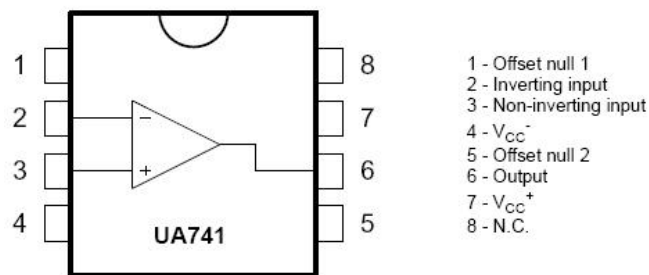

Figure 5.10. 741-type operational amplifier pin connections.
One common op-amp device is the 741 op-amp. The 741 is an eight-lead DIP; a top view of the package, with the leads labeled, is shown in Fig. 5.10. Key features of the package are as follows:
- Orientation of the pins is determined by the location of a semicircular notch on the package, as shown in Fig. 5.10. (Recall that Fig. 5.10 is a top view of the device.) Alternately, some packages place a circular indentation near pin 1 in order to provide the orientation of the pins.
- Inverting and non-inverting inputs are pins 2 and 3, respectively in Fig. 5.10
- The positive and negative power supplies are labeled as V_{CC+} and V_{CC-} in Fig. 5.10. They are pins 7 and 4, respectively. V_{CC+} should be less than +15 volts and V_{CC-} should be more than -15 volts. A larger range of power supply voltages may destroy the device.